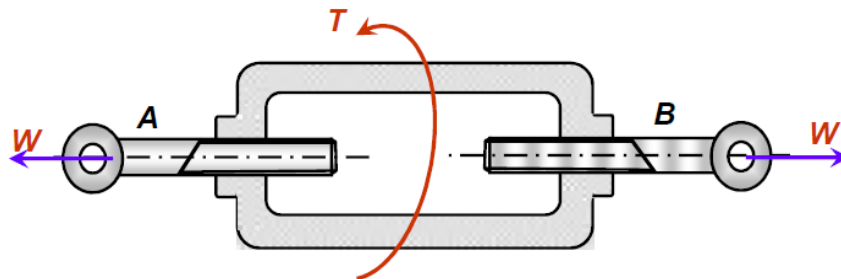

Figure 3: Turnbuckle Type 1
Deduce an expression to calculate the Torque(T) requirement to tension and loosen the turnbuckle shown in Figure 3.